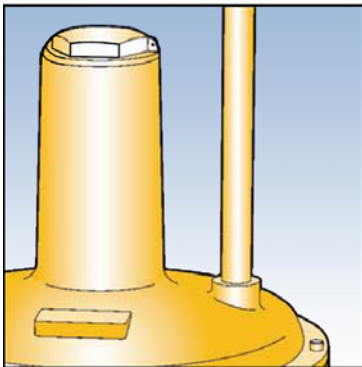

Fig. 3
2. Connect the vent line (½"), using a jointing compound approved to national standards, and lead to atmosphere in accordance with national standards. Ensure that no water can penetrate vent pipe. See Fig. 3.